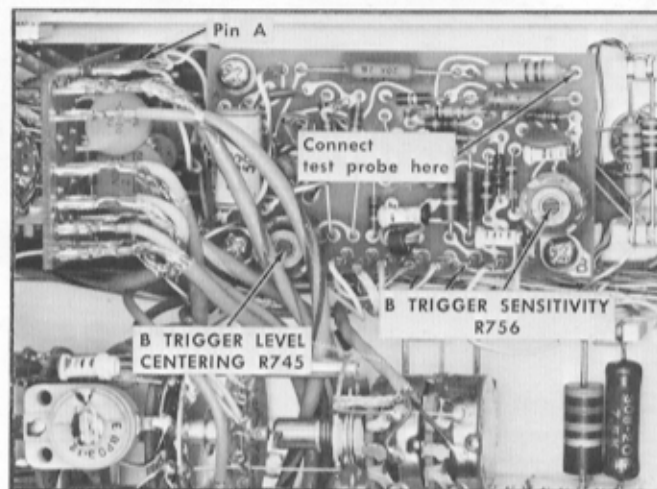
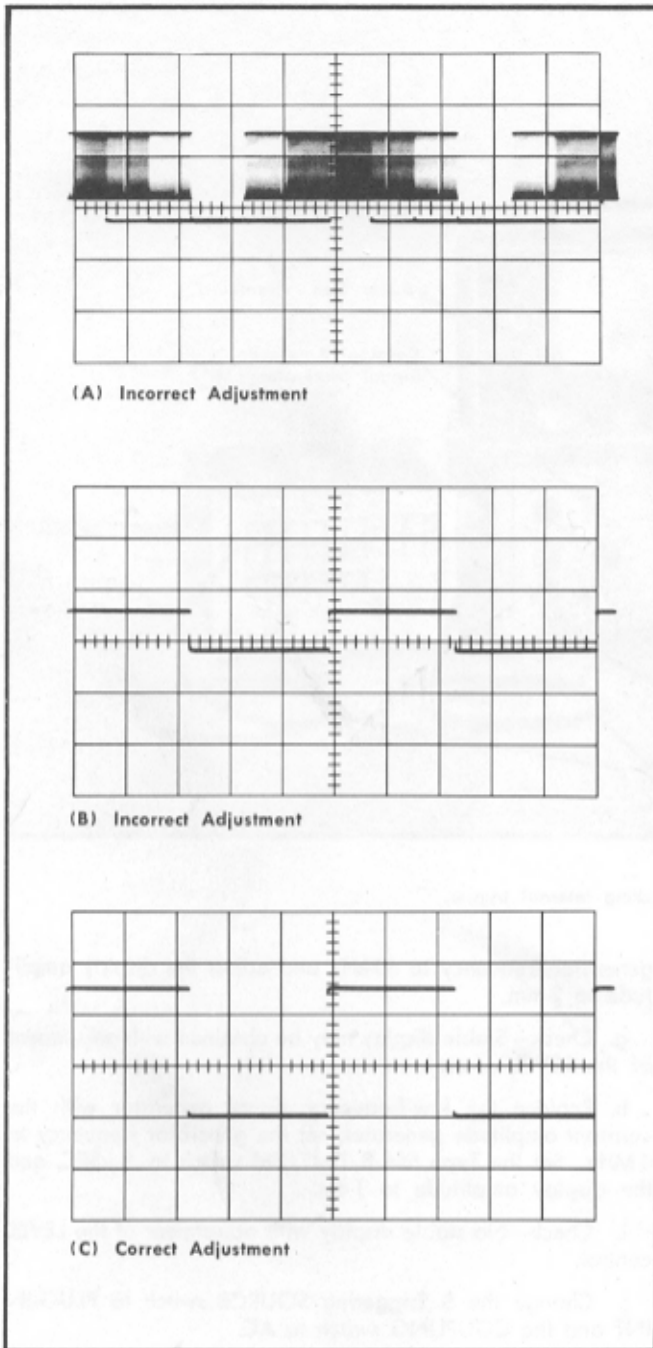

Fig. 6-28. External triggering adjustment locations, B sweep.
Fig. 6-29. Trigger adjustment waveforms.
i. Connect the 10× probe tip to the junction of R755 and R756. Fig. 6-28 shows the connecting point for the probe tip.
m. Adjust Trigger Sensitivity R756 and B Trigger Level Centering R745 to obtain the correct stable display on the test oscilloscope as shown in Fig. 6-29. The locations of R756 and R745 are shown in Fig. 6-28.
a. Connect a 10× probe from the test oscilloscope pin A (to grid of V734B) on the B trigger switch board (see Fig. 6-28). Check that the B Triggering SLOPE switch is set to +.